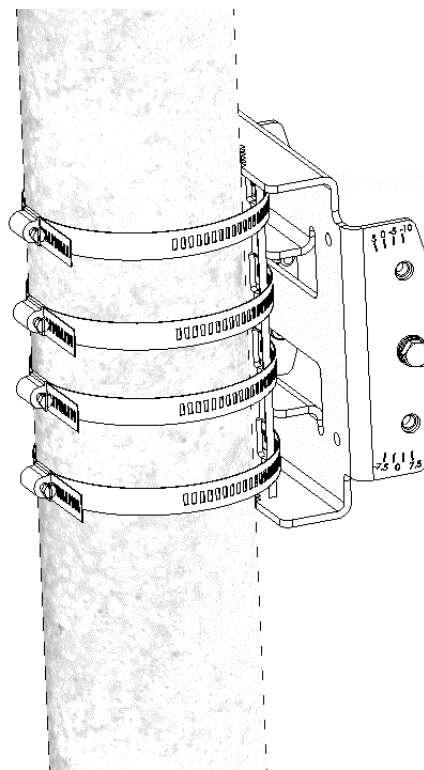

Figure 2-5: Installed Carriage with Metal Bands
- 2 Thread the four metal bands through the grooves on the carriage and fasten them (see Figure 2-5).
- 3 Attach the carriage to the pole and fasten with metal bands (see Figure 2-5).
- 4 Insert the tilt control screws into the middle-side hole of the carriage on both sides (see Figure 2-5).